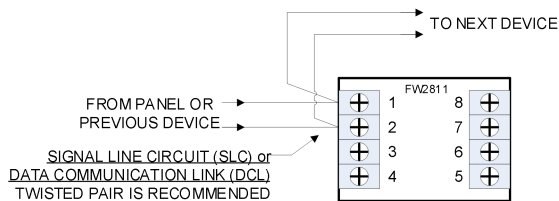

Figure 2. Wiring Diagram (SLC/DCL)
2. Connect the wires, see Figure 2. There is non-polarity between terminal 1 and terminal 2. All circuits are power-limited.